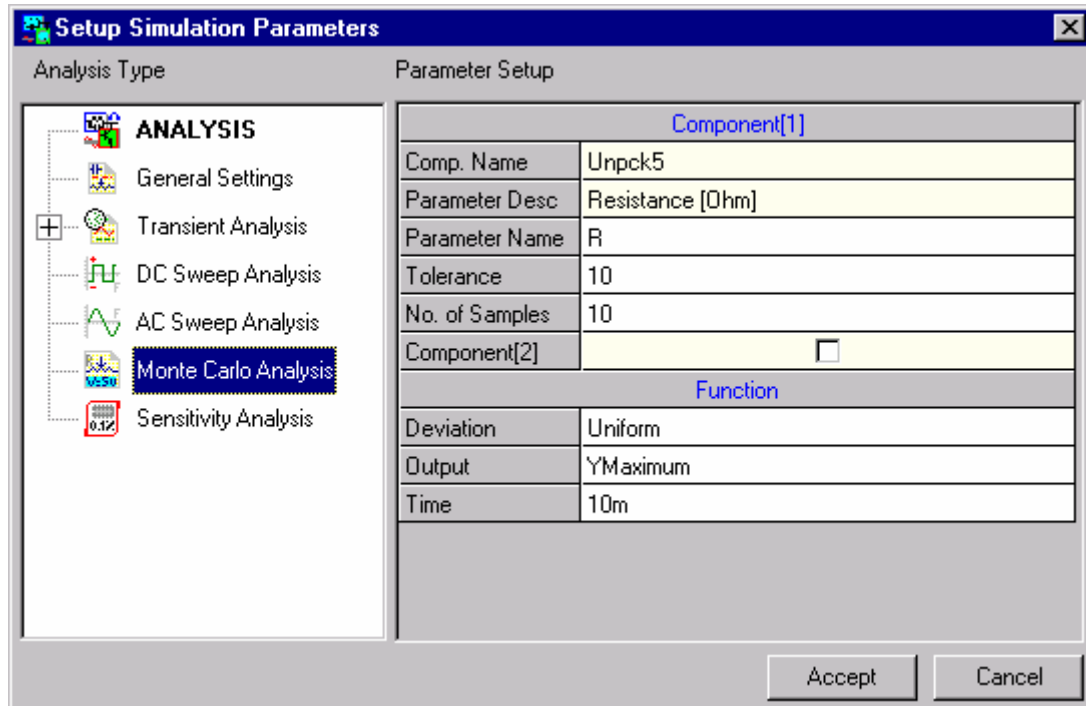

Fig. 6-17
3. We will select the Component RB1. Move the cursor over the resistor RB1 and click the left mouse button. The selected component name and parameter name appears in the dialog box. Selected resistor has only one parameter, and is automatically selected. If we have more parameters, we will have to specify the parameter of the component, e.g., a transistor, from the drop down 'Parameter Value'. We may conduct the analysis when the parameter of one circuit element is varied keeping the parameter of another circuit element constant, through out a range of values. In that case, check the check box Component (2) and set its parameters.
4. Set the Tolerance to be 10% and No. of samples 10. Tolerance specifies the percentage range of variation of component parameters. No. of Samples specifies the number of iterations within the output range for which analysis is to be carried out. Time specifies an instant of time at which the accurate parameter value is to be calculated for obtaining the specified output. Set it as 10ms (Refer Fig. 6-17).